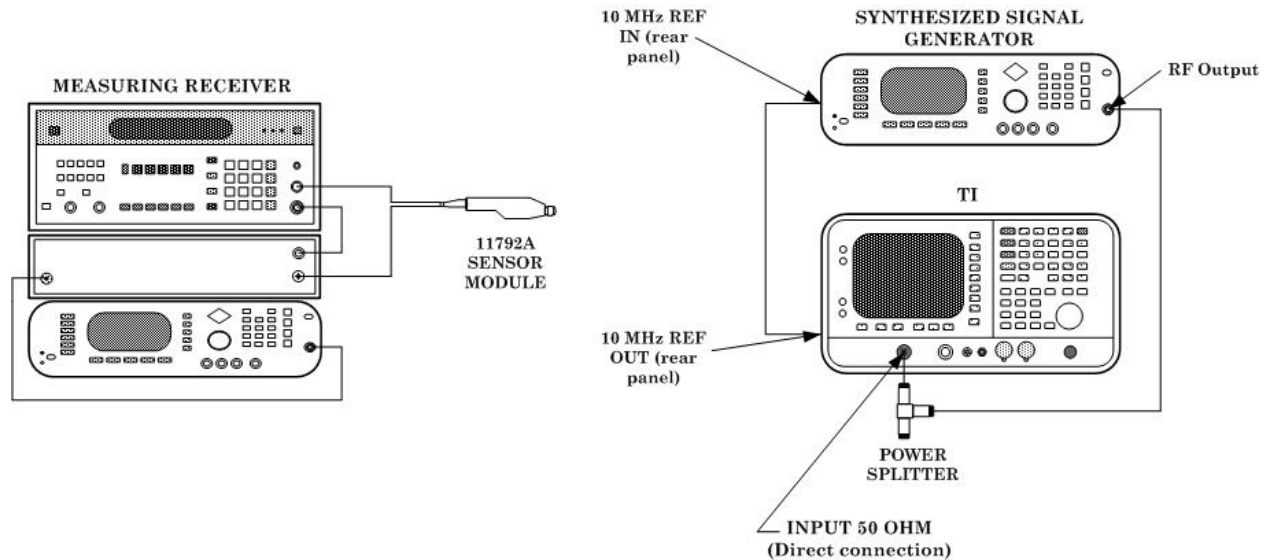

Figure 4. Frequency response equipment setup.
- (1) Connect equipment as shown in figure 4.